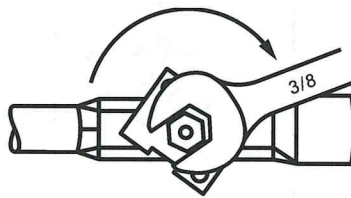

FIGURE 13.
- Locate the correct burner orifice as indicated in the charts above for your water heater model and hand start threading the orifice into the burner tube by rotating it clockwise ↻. Be careful not to cross thread the orifice into the burner tube. Continue to rotate the orifice until it is snug. Use a 3/8 inch open-end wrench to tighten the orifice. DO NOT over tighten. DO NOT use joint compound or tape on the orifice or burner tube threads, see Figure 13.